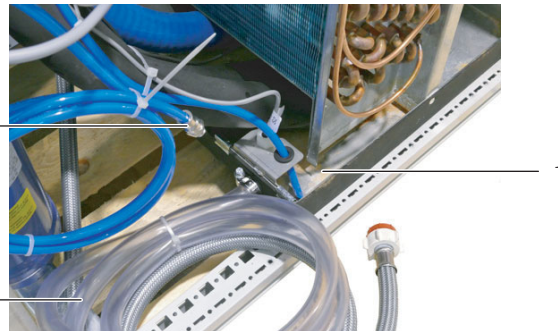

Fig. 23: Condensate discharge
Any condensate which may develop is collected in the condensate collecting tray (fig. 23, item 1) beneath the heat exchanger.
A hose ($\varnothing_i = 16 \text{ mm}$, length = 2 m) is connected to the condensate discharge in the factory (fig. 23, item 2). This hose, in turn, must be routed to a drain with odour seal by the customer, so that any condensate can be discharged from the device. The LCP DX may optionally be fitted with a condensate pump in addition to this (see section 15.5 "Condensate pump").